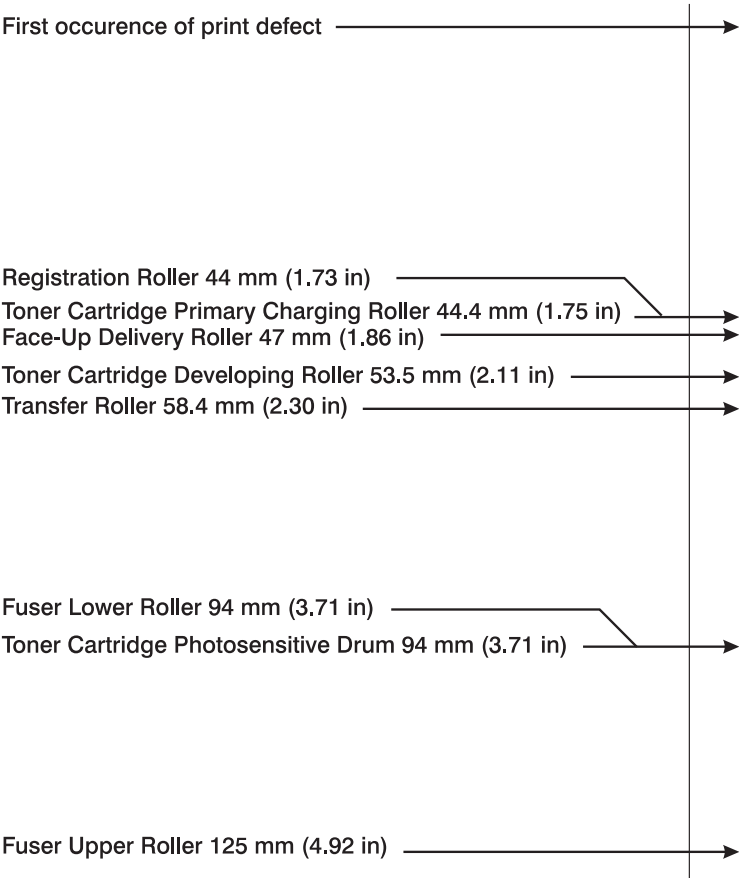

Figure 7-14 Repetitive Defect Ruler
5. Repetitive defect. If the lines are repeated at a consistent interval down the page, this is a repetitive defect.	See the Repetitive Image Defect Ruler (figure 7-14 on page 484).
1. Toner cartridge is damaged. If the defect repeats at any of the following intervals and in the direction of paper movement, it is associated with a component inside the toner cartridge. See figure 7-14 on page 484.	Inspect the drum for scratches or damage. Replace the toner cartridge. Use the Repetitive Defect Ruler, figure 7-14 on page 484.
Repetitive print defects are usually associated with a specific roller within the printer or the toner cartridge. Use figure 7-14 to isolate the cause of repetitive print defects. Align the first occurrence of the defect with the top of the “ruler” and measure to the next occurrence of the defect to determine the roller in question. When you are certain that your defect pattern matches the pattern of the ruler, replace the indicated roller.